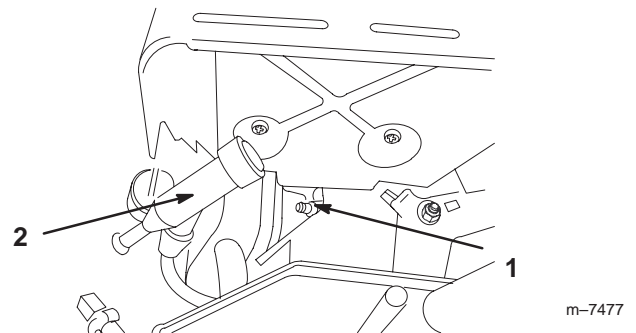

Figure 50
3. Pull the wire off of the spark plug (Fig. 50).
3. Push the wire onto the spark plug (Fig. 50).